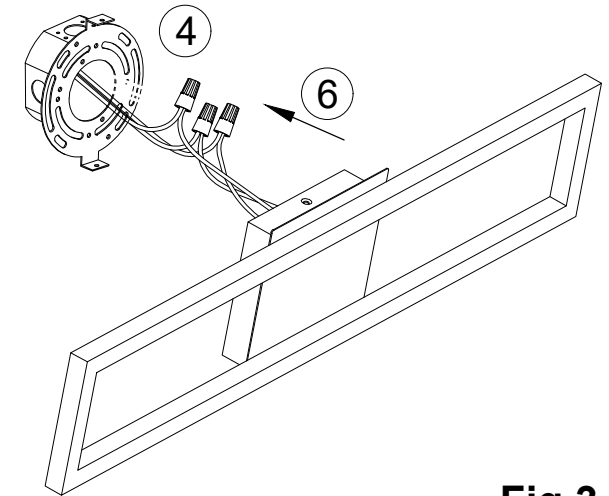

Fig.3
6. Place the fixture over the mounting bracket. Install the two screws on the sides of the fixture to secure it to the wall. **(Fig.3)**